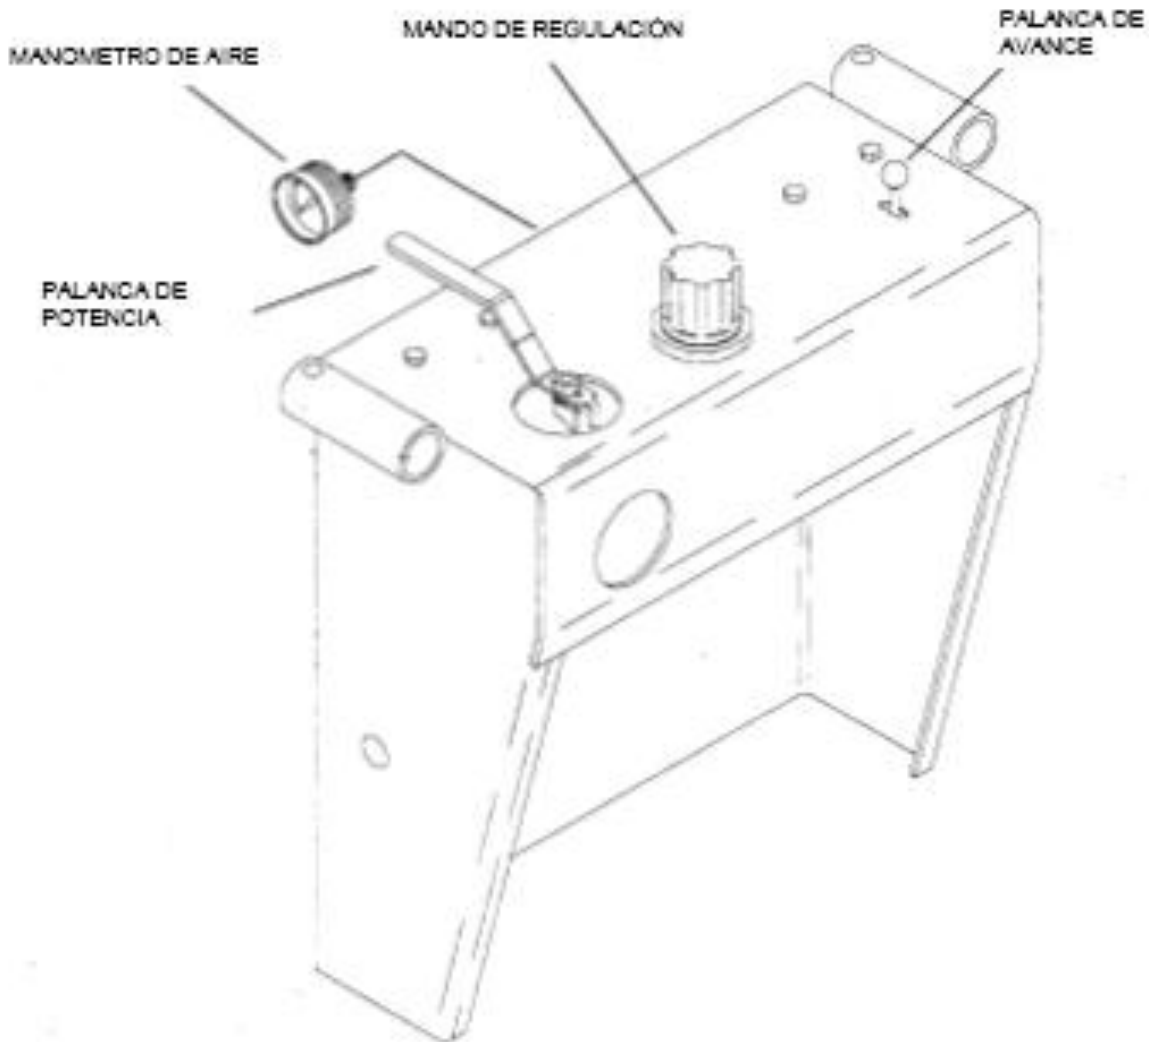

FIG. 1
4. CONSOLA DE CONTROL (Fig. 1)